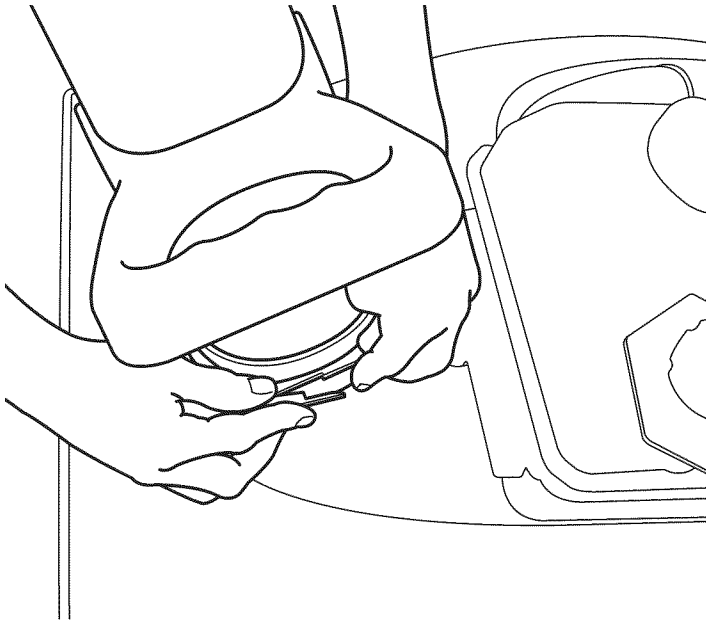

Figure 6-1
5. Fasten the locking collar and snap into plate (see Fig.6-1, 6-2).